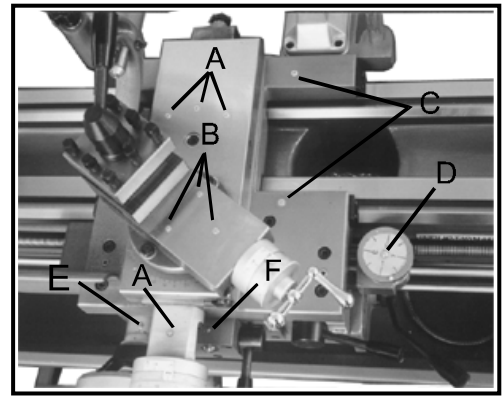

Fig. 7
4. **Cross Slide** – Lubricate four oil ports (A, Fig.7) with 20W machine oil once daily.
5. **Compound Rest** – Lubricate three oil port (B, Fig.7) with 20W machine oil once daily.
6. **Carriage** – Lubricate two oil ports(C, Fig.7) with 20W Machine oil once daily.
7. **Thread Dial Indicator** – Lubricate one oil port (D, Fig.7) with 20W machine oil once daily.
8. **Handwheel** –Lubricate one oil ports(E, Fig.7) on the apron Hand wheel with 20W machine oil once daily.
9. **Cross and longitudinal feed selector-** Lubricate one ball oiler (F, Fig.7) on the apron top with 20W machine oil once daily.